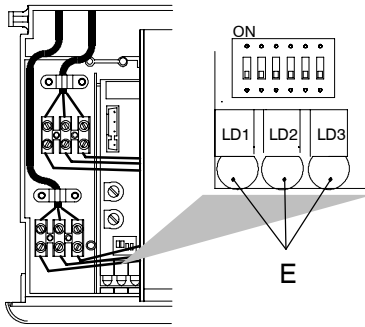
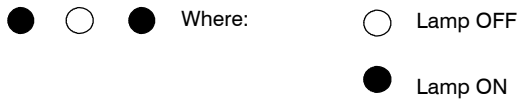

Fig. 24
Fig. 25
- 6 Press the reset button C repeatedly (4 times) until the lamps E give the indication as in Fig. 24 – Fig. 25 (gas type mode).